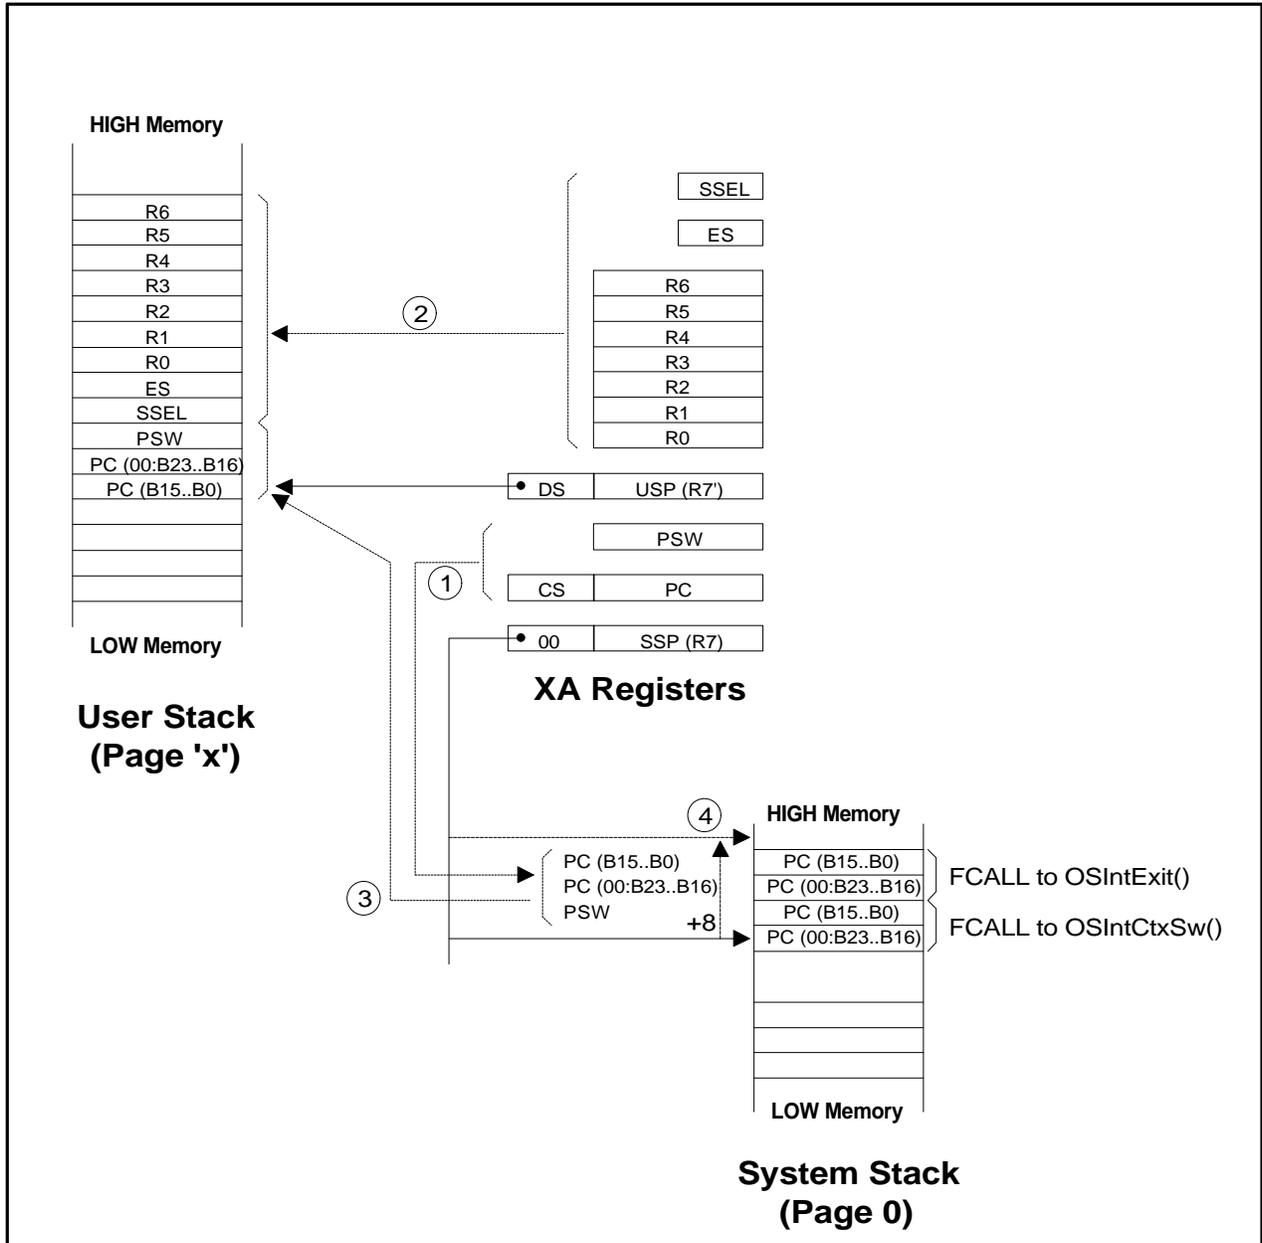

Figure 6
The stack frames (system and user) during an interrupt is shown in figure 6. Items ①, ② and ③ are performed at the beginning of your ISR. When you call `OSIntExit()`, the return address is pushed onto the system stack. If a context switch is needed, `OSIntExit()` calls `OSIntCtxSw()` which also causes its return address to be pushed onto the stack. In order for `OSIntCtxSw()` to properly perform a context switch, the stack pointer (R7) needs to be adjusted so that it points as shown in figure 6, ④. The adjustment value of the stack pointer depends on the compiler model and the compiler options selected. The value is, however, at least 8 (for the large model) because of the two return addresses. If your application crashes you may want to make sure that you have the proper value for this constant. The rest of the context switch is exactly the same as previously discussed.